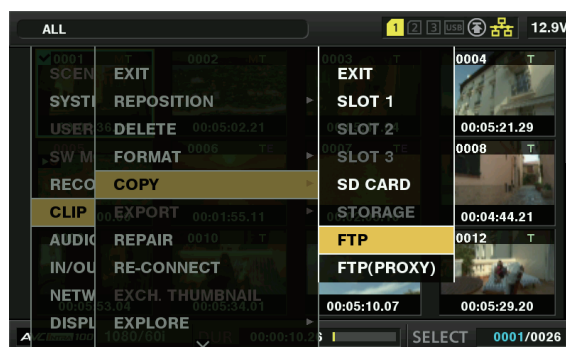

Fig. 1
**4** Select the clips to transfer by selecting the main menu → **[CLIP]** → **[COPY]** → **[FTP]** or **[FTP(PROXY)]** from the thumbnail screen. (Fig. 1)